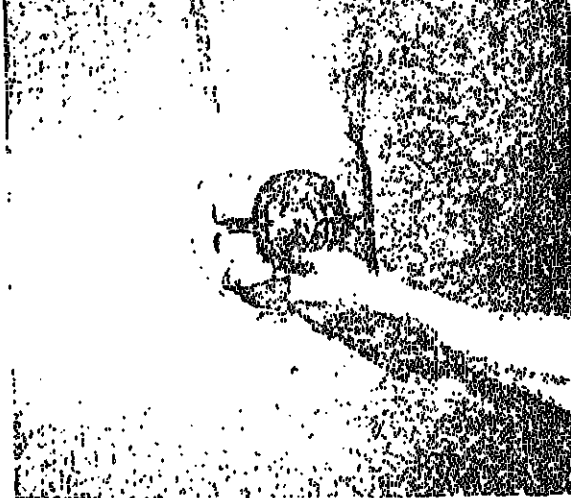

FIGURE 9-113.
- d. Install each cap on the original position. Be sure groove (1) is to the outside (see figure 9-113).